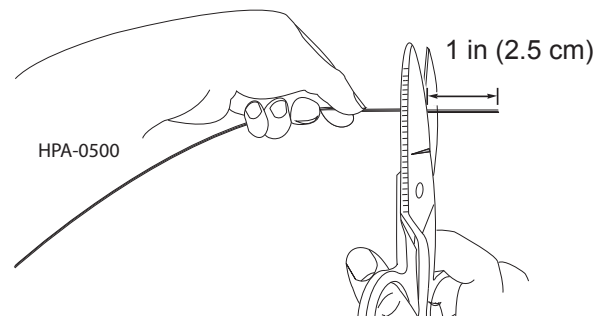

Figure 16
**Step 5:** Use scissors to trim 1 in (2.5 cm) from the end of the fibers. The fibers are now ready to be cleaned and terminated (Figure 16).